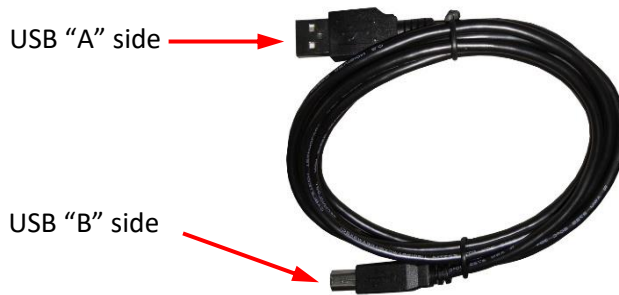

Figure 5-2 “A to B” USB cable
2. Connect Side B of a standard “A to B” USB cable to the instrument (only Side B will fit) See Figure 5-2.